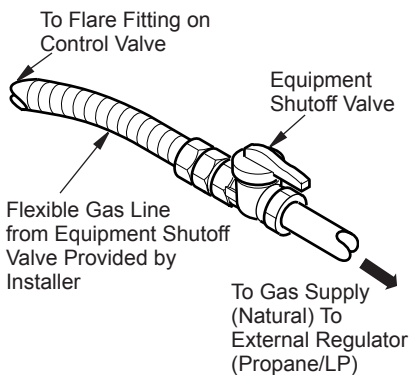

Figure 29 - Flexible Gas Line
2. Route flexible gas line (provided by installer) from equipment shutoff valve to burner system (see Figure 29). Route flexible gas supply line and attach to valve.